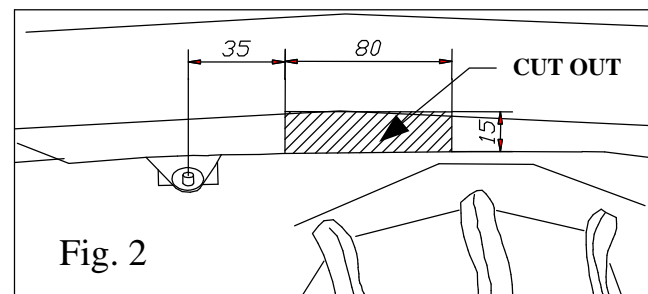

Fig. 2
2. In lower part of the bumper cut out fragment according to figure 2.
4. From outsides of the chassis members are original holes under technical plaster. Remove plaster and uncover original holes. On this holes put fish-plates pos. 13 and through holes put bolts M10x110mm (pos. 10)
5. From inside put side brackets (pos. 4 and 5) on protruding bolt and fix loosely.
6. Between mounted brackets put main bar of the towing hitch (pos. 1) and fix using bolts M12x40mm (pos. 9), use distance fish-plates (pos. 6 and 7)
7. Fix tow-ball (pos. 2) and socket plate (pos. 3) by bolts M12x75mm (pos. 8) from equipment.